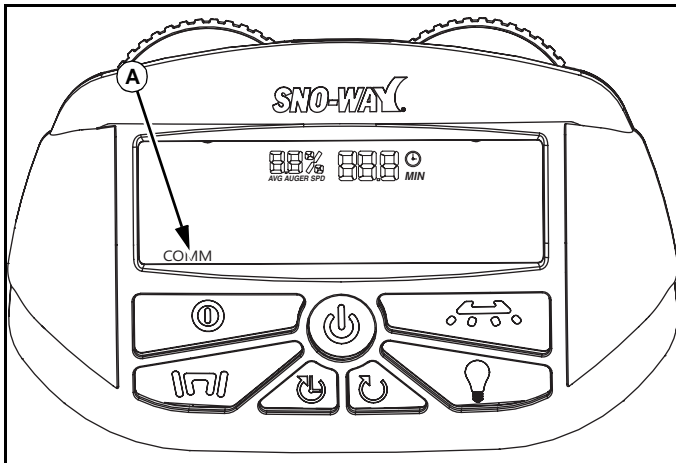

Figure 1-20
The Comm Code (A) indicates that the transmitter is not communicating with the spreader receiver. This is typically a loose or severed connection on the white or green communication wires between the transmitter and the receiver. (See Figure 1-20.)